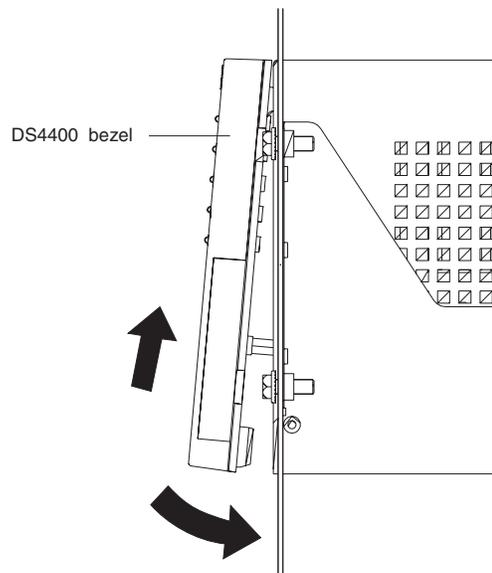

Figure 22. Replacing the DS4400 Storage Server bezel
2. To replace the bezel, slip the top edge of the bezel under the lip on the chassis, then push the bottom of the bezel until the pins snap into the mounting holes, as shown in Figure 22.